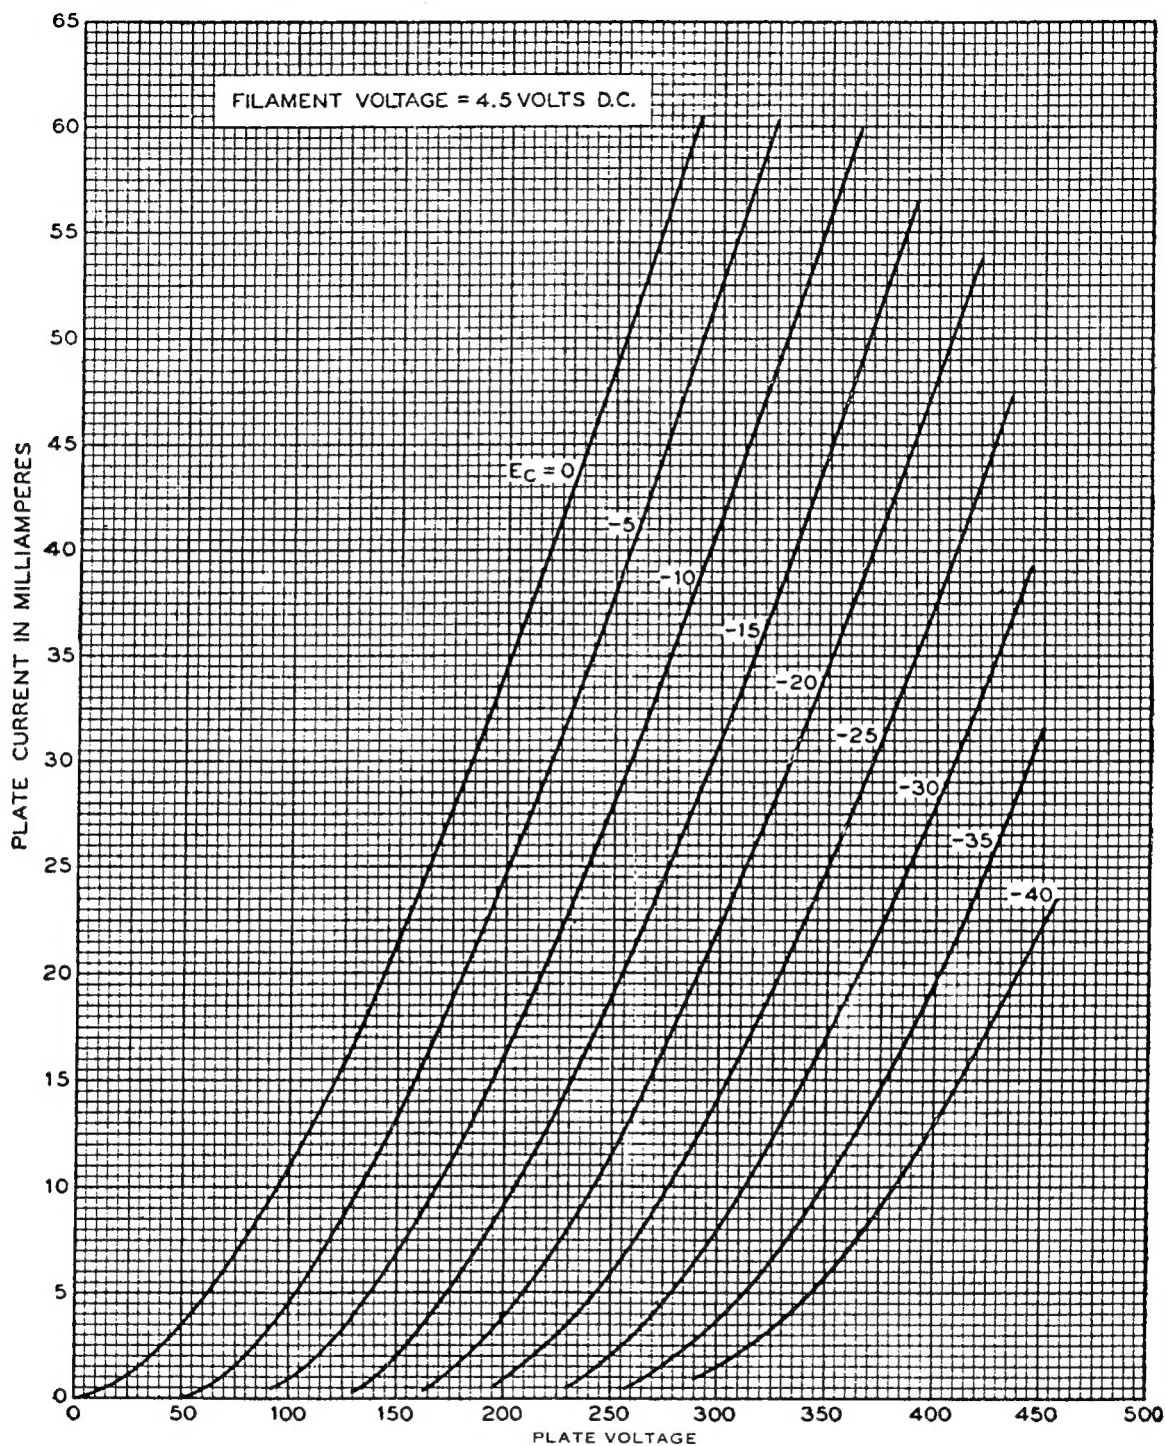

FIG. 7
**Characteristics**—Plate current characteristics of a typical 205E tube are shown in Figure 3 as functions of grid voltage for several values of plate voltage. Corresponding amplification factor, plate resistance, and transconductance characteristics are given in Figures 4, 5, and 6, respectively. Plate current characteristics as functions of plate voltage for several values of grid voltage are shown in Figure 7. These characteristics are for direct-current filament supply with the grid and plate voltages measured from the negative end of the filament. When alternating-current filament supply is used, the same characteristics are applicable if 2.6 is added to the numerical value of each grid bias.